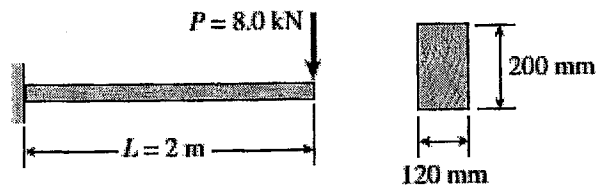

Fig.Q05
5. A cantilever beam of length $L = 2$ m supports a load $P = 8.0$ kN (see Fig.Q05). The beam is made of wood with cross-sectional dimensions 120 mm x 200 mm. Calculate the shear stresses due to the load P at points located 25 mm, 75 mm and 100 mm from the top surface of the beam. From these results, plot a graph showing the distribution of shear stresses from top to bottom of the beam. (100 marks)